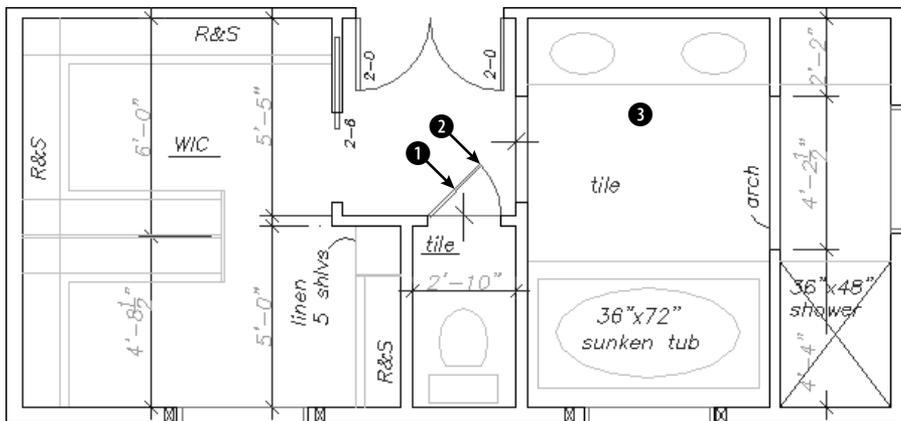

Figure 13-5: The master bathroom.
2. Save the file as ab13-01.dwg in your AutoCAD Bible folder. This is a master-bathroom plan drawing, as shown in Figure 13-5. Make sure OSNAP is on. Set running object snaps for endpoint, midpoint, and intersection.
Specify bottom-center point of text: *Use the Midpoint running object snap to pick ① in Figure 13-5.*
Specify middle point of text: *Pick ③ in Figure 13-5. (This point doesn't have to be exact.)*